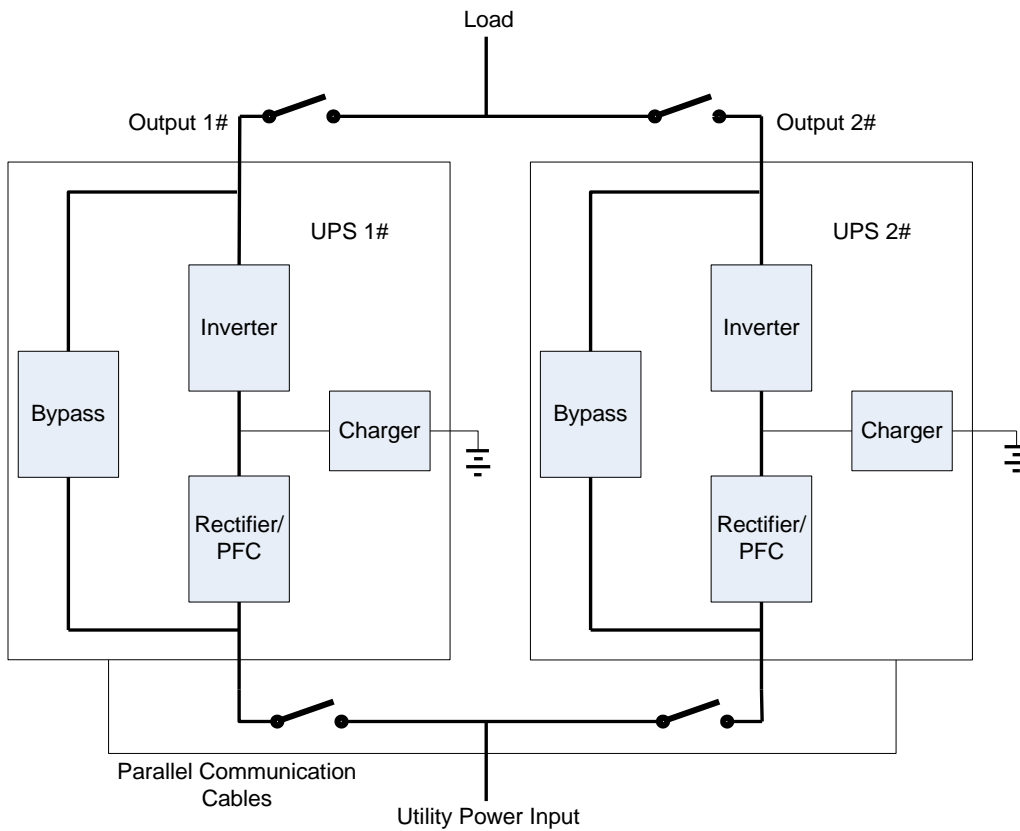

Fig2.1 Parallel system power cable connection
1. Parallel system power cable connection, as fig2.1: